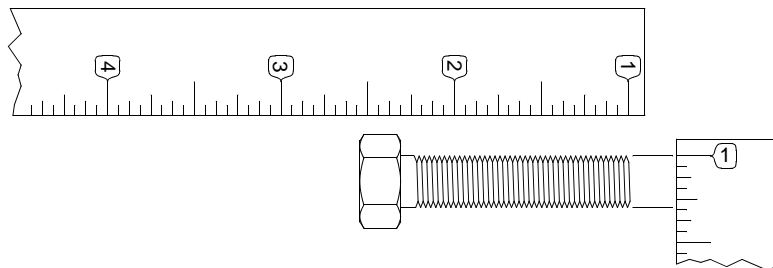

Figure 3. Measuring Bolt Diameter
1. Measure the diameter of the bolt to be torqued (figure 3).